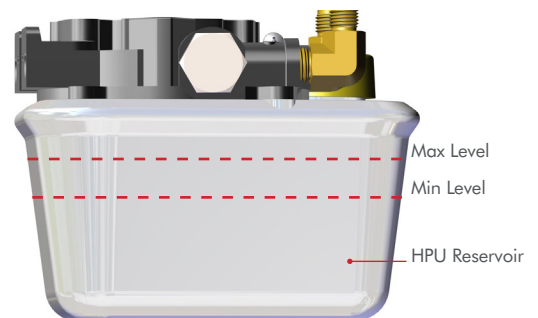

Figure 4
STEP 6: Make sure that **HPU Reservoir** is properly filled. If not, refill to "**Max Level**" with **Green Marine™** or other ISO 32 Hydraulic Fluid. **FIG. 4**